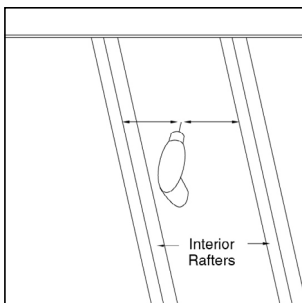

Figure 2
3. **Drill location hole...** from inside the attic, use measurement from Step 2, entered between two rafters. See Figure 2.